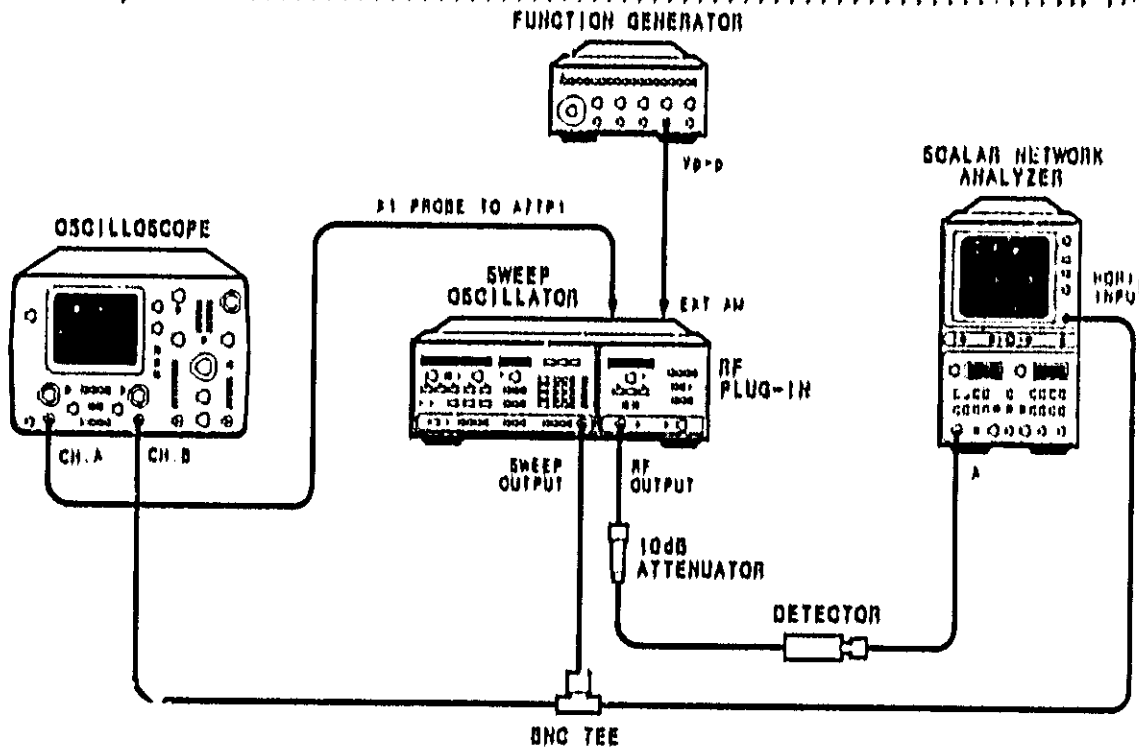

Figure 5-38a. Marker Gain (Fine Tune) Adjustments Test Setup
1. Connect equipment as shown in Figure 5-38a.